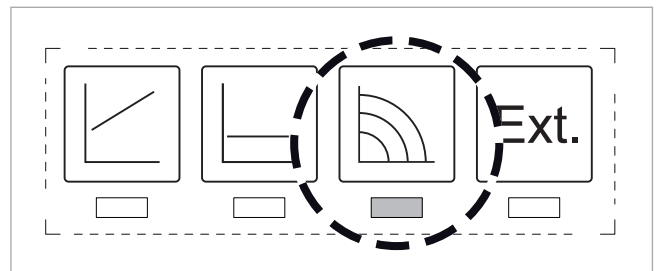

Fig. 14: Set constant speed
2. Set constant speed, see → Fig. 14. Press the upper operating button several times to change the control mode.